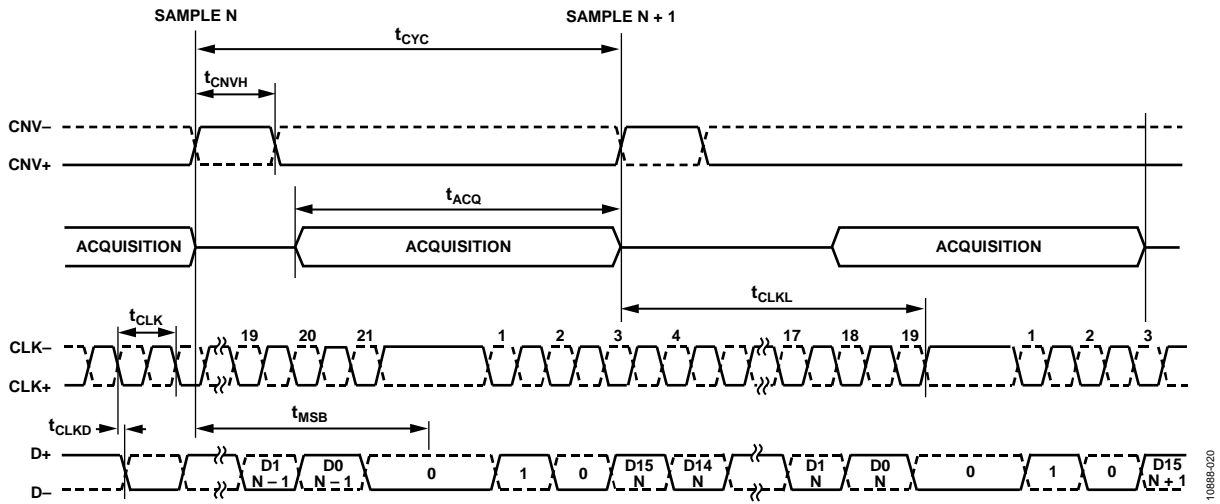

Figure 37. Self-Clocked Interface Mode with Extra Clock Pulse Timing Diagram
When the self-clocked interface mode is used, the AD7961 also allows the user to provide an extra (19th) clock pulse to see a guaranteed 0 state at the end of the frame, as shown in Figure 37. After  $t_{MSB}$  has elapsed, the first bit of the header sequence, 0, automatically appears on D± and the remaining two bits of the header, 10, are then clocked out by the first two CLK± falling edges at the beginning of the next sample. This header (010) is used to synchronize D± of each conversion in the digital host because, in this mode, there is no clock output synchronous to the data (D±) to allow the digital host to acquire the data output.